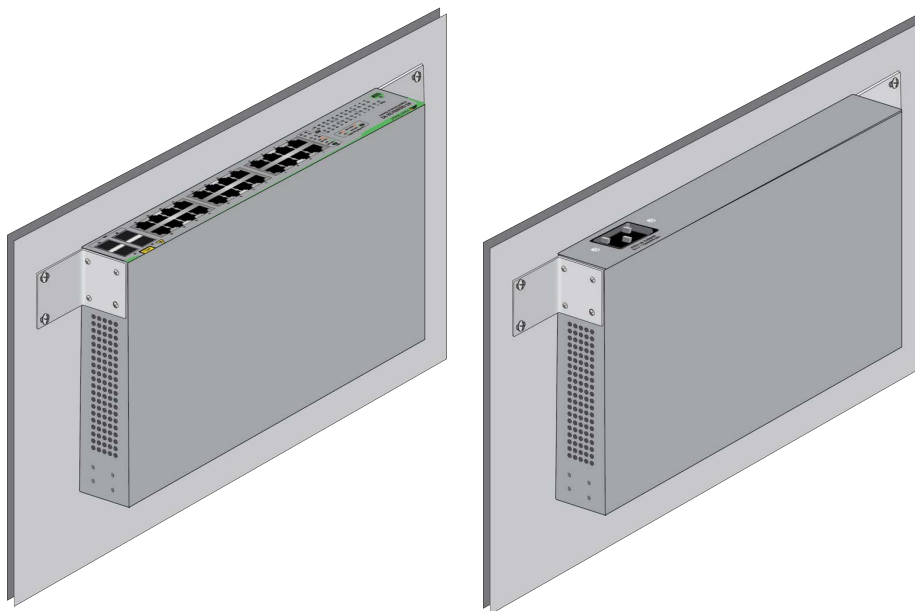

Figure 39. Wall Installations for the GS950 PS V2 Series
You can install the switches in the GS950 PS V2 Series on a wall with the front panel facing up or down. Figure 39 illustrates the GS950/28PS V2 Switch.
Figure 39 illustrates the GS950/52PS V2 Switch.
- Position the switch so that the front panel is facing up or down. Refer to Figure 39 on page 58. Do not install the switch with the front panel facing right or left.